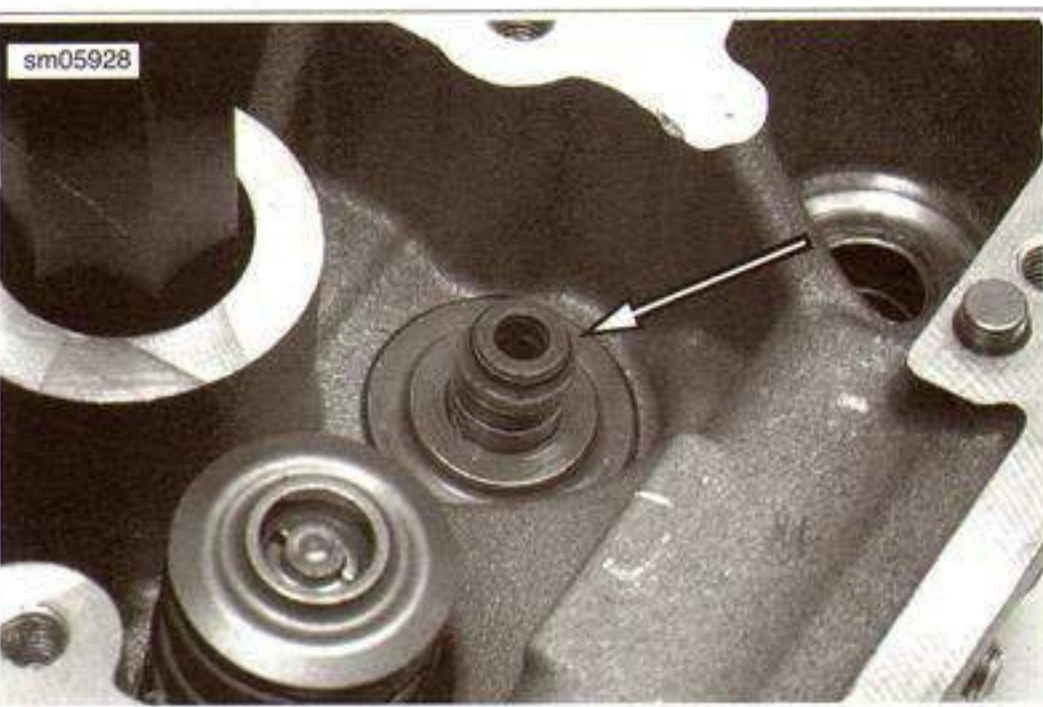
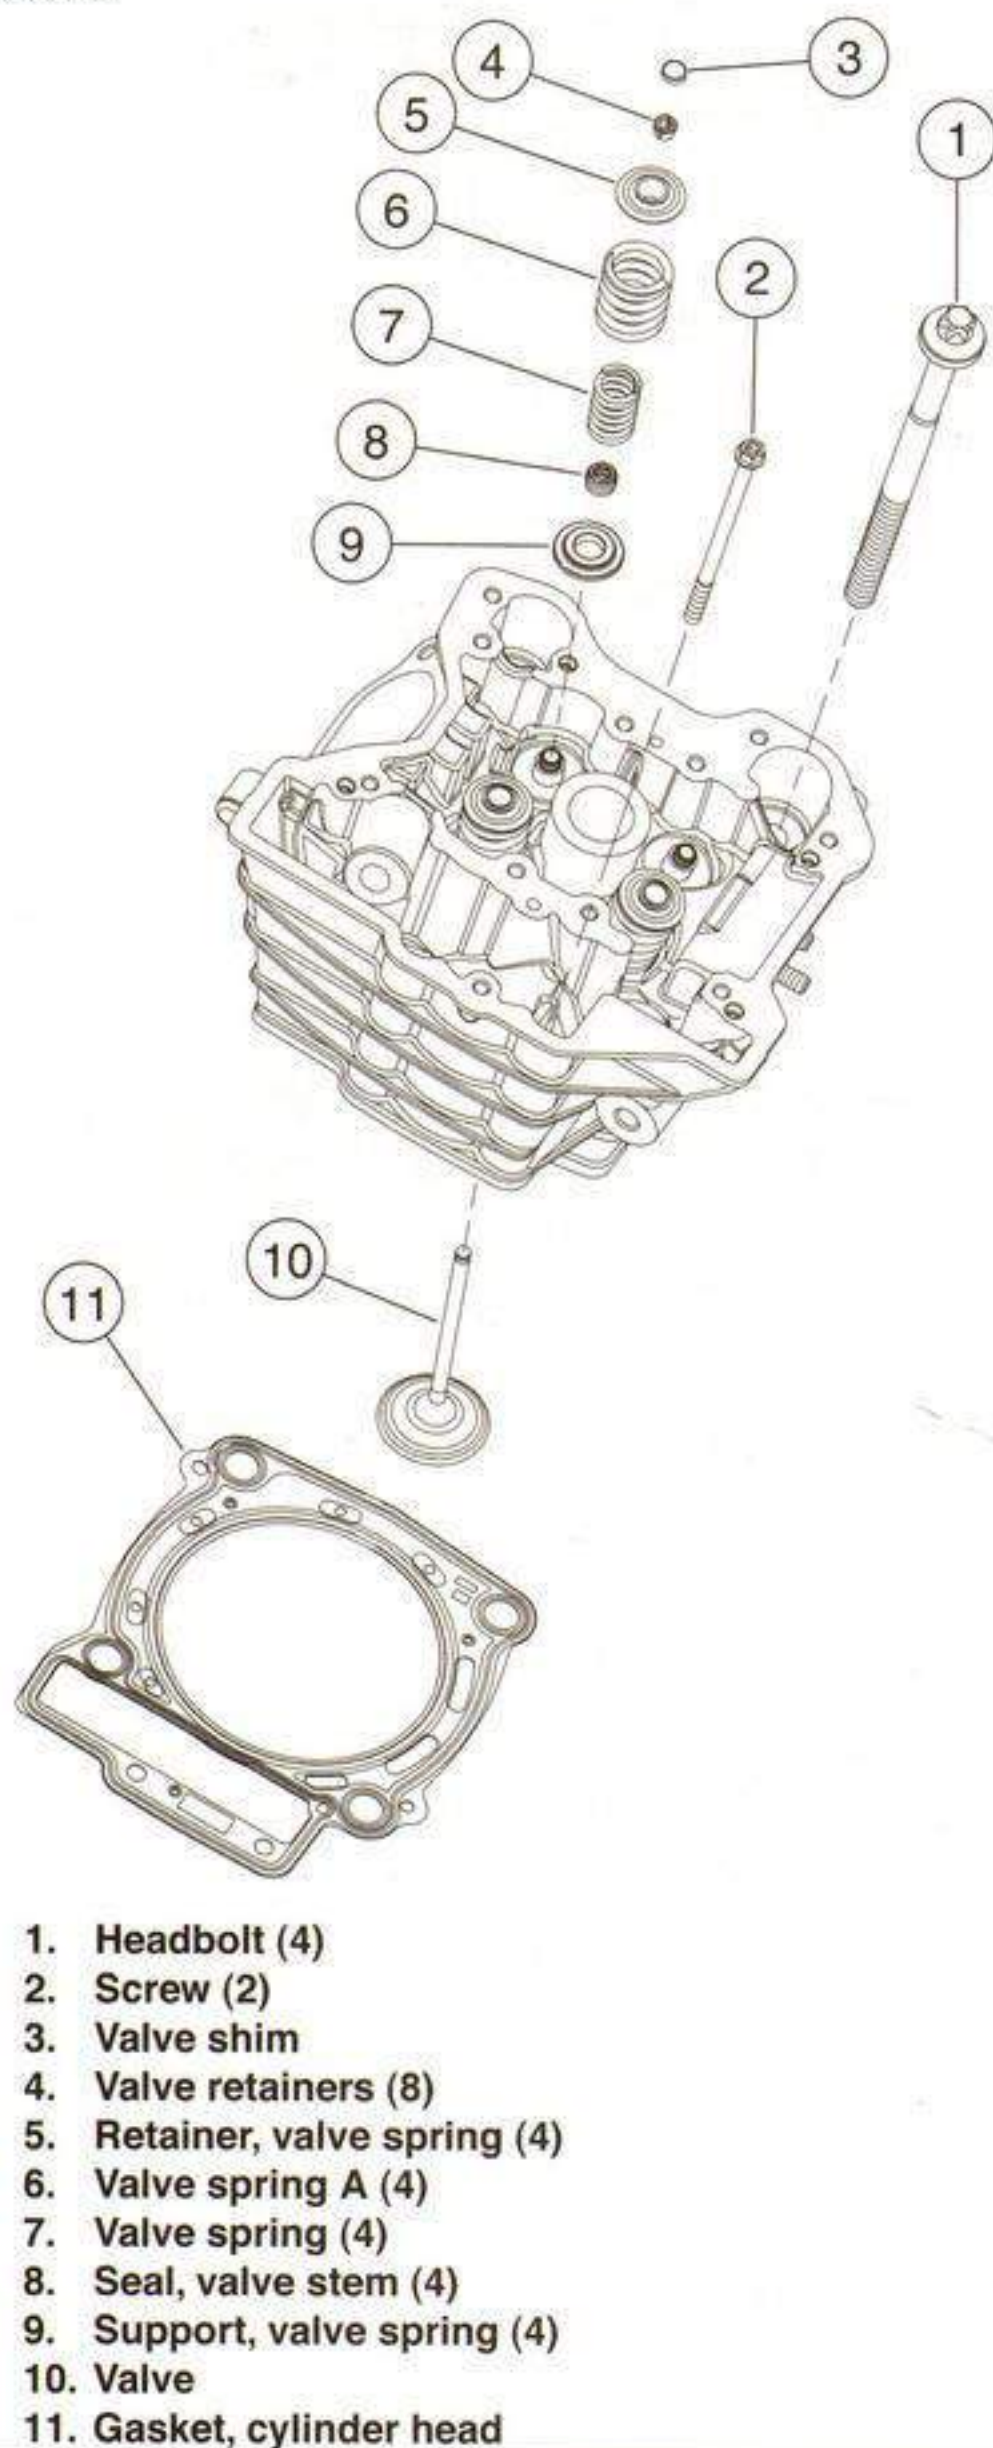

Figure 3-86. Valve Guide Seal
Figure 3-87. Cylinder Head
- a. Thread 10 mm end of CYLINDER HEAD HOLDING FIXTURE (Part No. B-49312) (2) into cylinder head (1) spark plug hole.
3. Place VALVE SPRING COMPRESSOR (Part No. HD-34736-B) (3) over cylinder head (1). Center blunt end on the valve head. Seat adapter at end of forcing screw on the valve spring retainer.
- b. See Figure 3-87. Remove valve retainers (4).
- d. Remove valve spring retainer (5) and valve springs (6, 7).
4. See Figure 3-86. Remove valve guide seal.